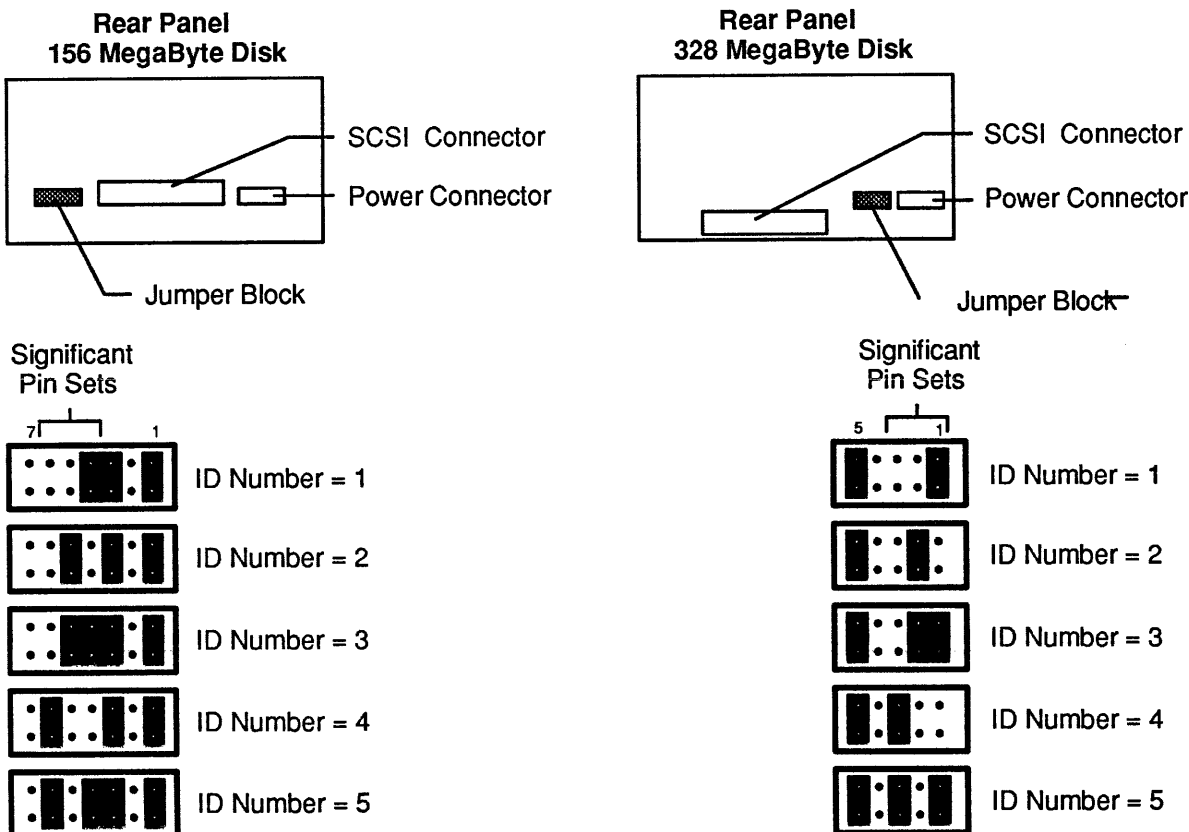

Figure C.4. Specifying the ID Number
The jumper blocks for the 156 MB and 328 MB disk drives are located in different positions on the rear panel. The significant pin sets also differ. Figure C.4 on the following page shows the rear panels for both the 156 MB and 328 MB Disk Drives, and the significant pin sets on each jumper block.
The jumper blocks illustrated in Figure C.4, show the significant pins for specifying the ID number. The other pin sets that are shown with shorting plugs enable parity checking. For the 156 MB disk drive, pin set 1 enables termination power source and pin 3 is jumpered to enable parity. For the 328 MB Disk Drive, pin set 5 is jumpered to enable parity.
11. Reinstall the side panel by aligning the latching tab on the side panel with the slot at the top of the computer chassis. Refer to Figure C.4. Press the latching tabs into the slots, and slide the side panel towards the front of the machine.